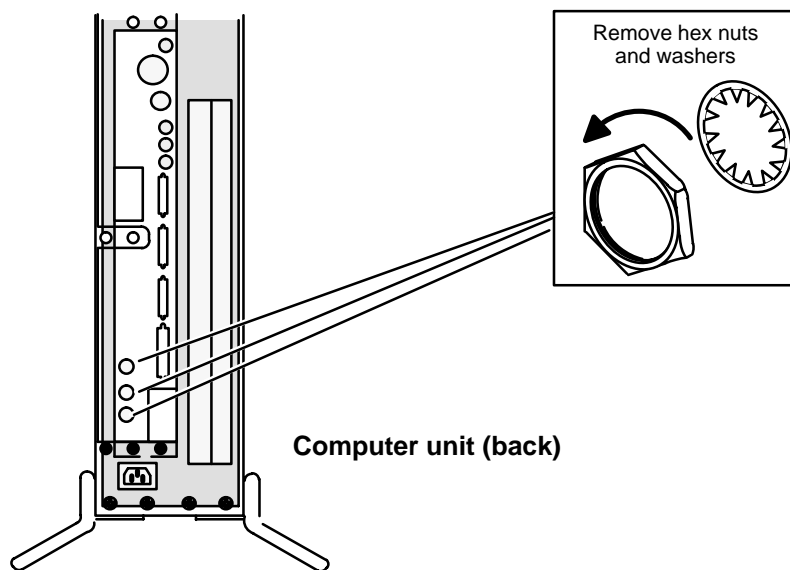

Figure 9-20 Releasing the Graphics Monitor Connectors from the Computer Bulkhead
1. If you are removing a graphics controller board, remove the hexagonal retaining nuts and the washers that secure the monitor connectors to the computer unit bulkhead, as shown in Figure 9-20. If you cannot release the nuts with your fingers, use an adjustable wrench.